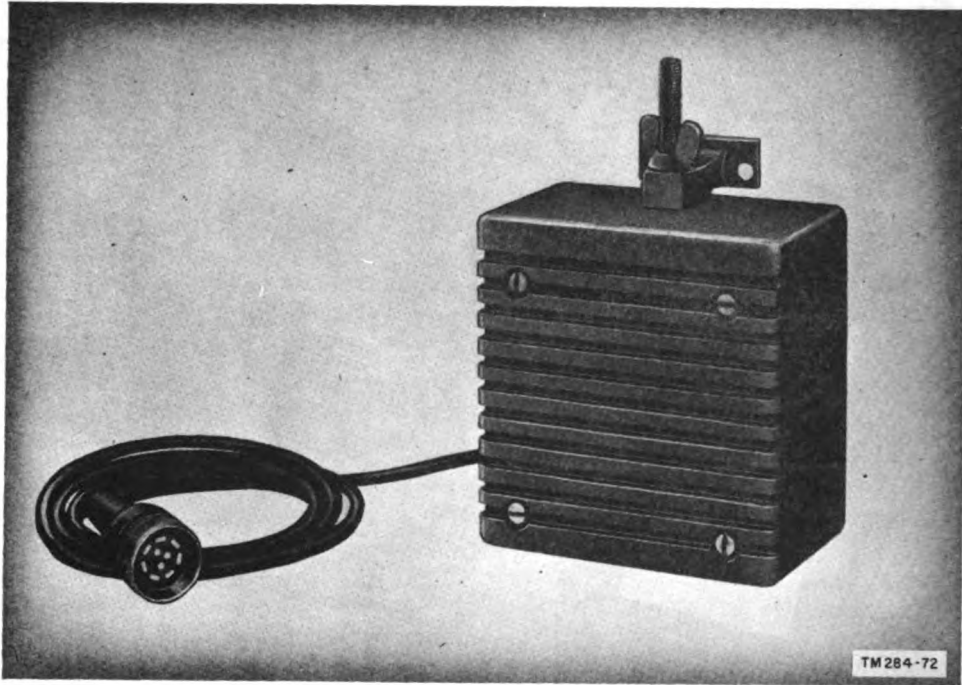

Figure 14. Dynamic Loudspeaker LS-166/U
d. DYNAMIC LOUDSPEAKER LS-166/U. Dynamic Loudspeaker LS-166/U (fig. 14) is a 4-inch, permanent magnet field, dynamic type loudspeaker with a voice-coil impedance of 8 ohms, and a 600-ohm impedance input transformer. A 5-foot cord, terminated in a 10-pin audio connector, is provided for connecting the speaker to the audio receptacles wired for loudspeaker or phone oper-